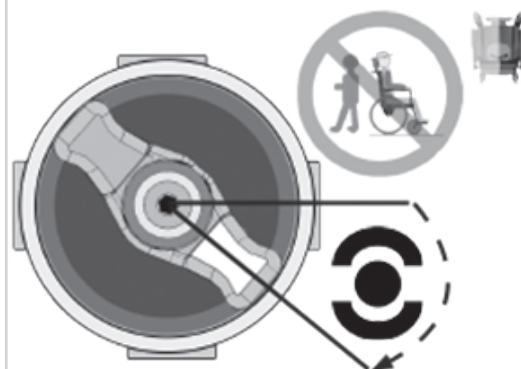
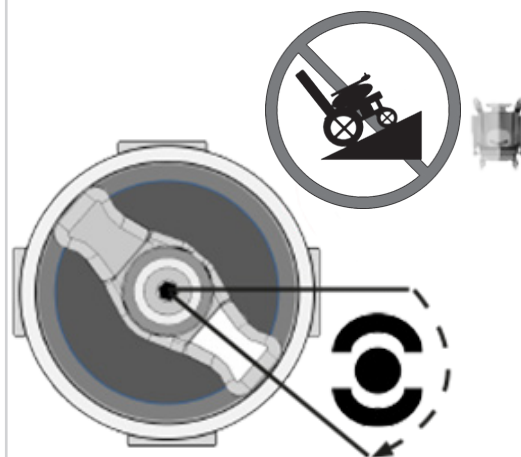

Fig. 5.3
Fig. 5.4
2. For disengaging the motors. (Fig. 5.3 - Fig.5.4).